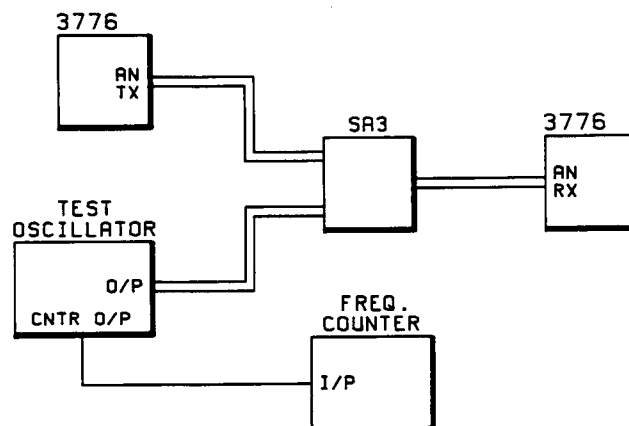

Figure 4-23 Analog Receiver Inter-modulation Floor Test Set-up
1. Connect the equipment as shown in Figure 4-23.